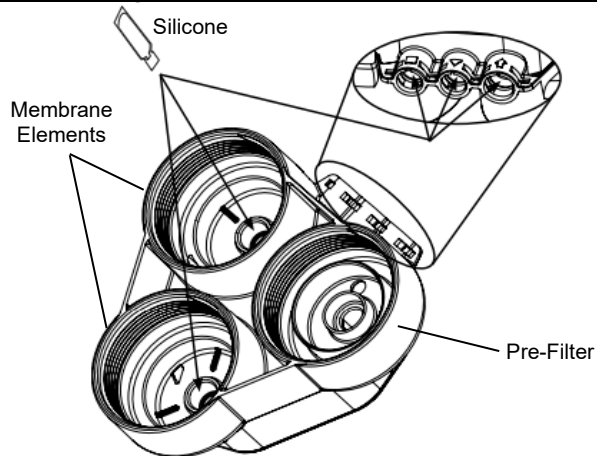
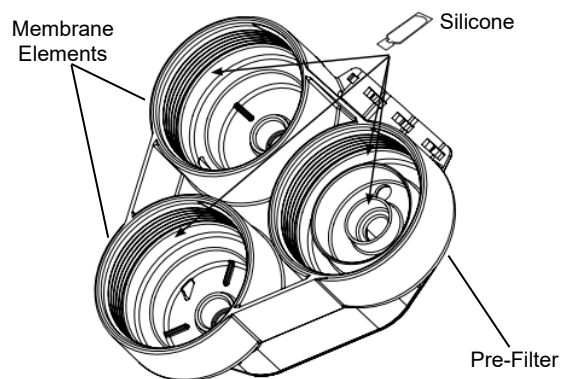

Figure 1
Figure 2
7. Lubricate the manifold locations detailed in Figure 1 and Figure 2. Six packets of silicone lubricant are supplied with the system. One packet should be completely used to lubricate the O-ring contact surfaces in the (3) manifold ports and (2) RO membrane locations (Figure 1). Lubricate the filter seat and the flat surface below the threads for the (3) sump locations (Figure 2). Use a complete packet of silicone for each sump location.